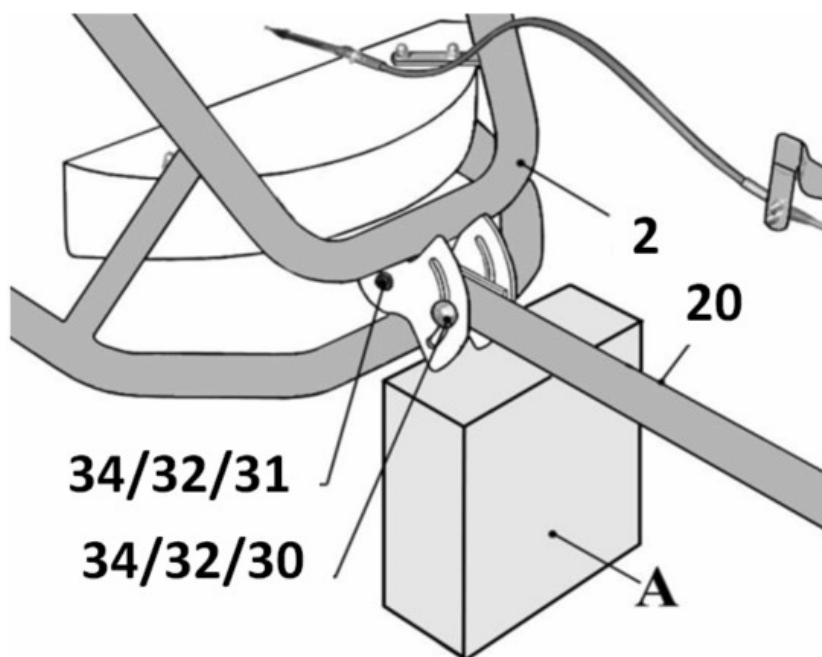

Fig. 1
- using 2 no. 17 keys, loosen the 2 bolts (**34**) and 2 nuts (**32**) securing the drawbar hitch attachment (**20**) to the chassis (**2**). See Fig. 1;